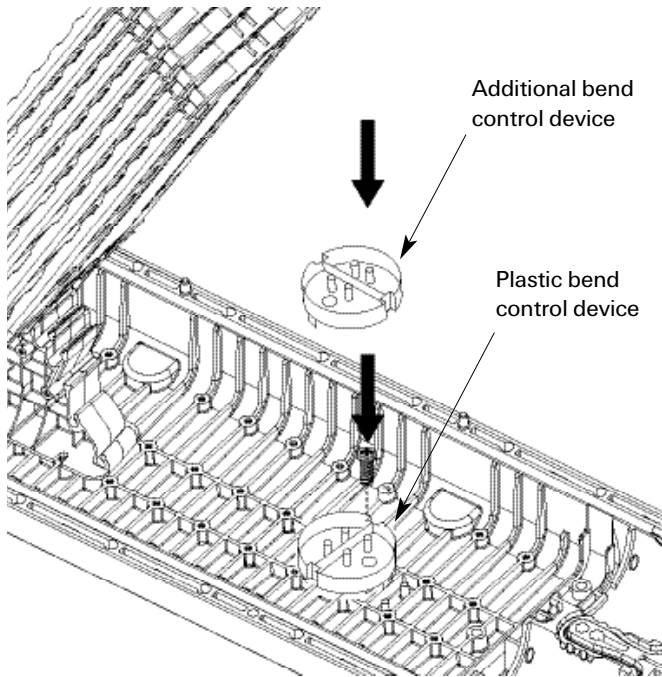

Fig. 25
1. Install round, plastic bend control device in bottom of closure with supplied Phillips-head screw. (Fig. 25)